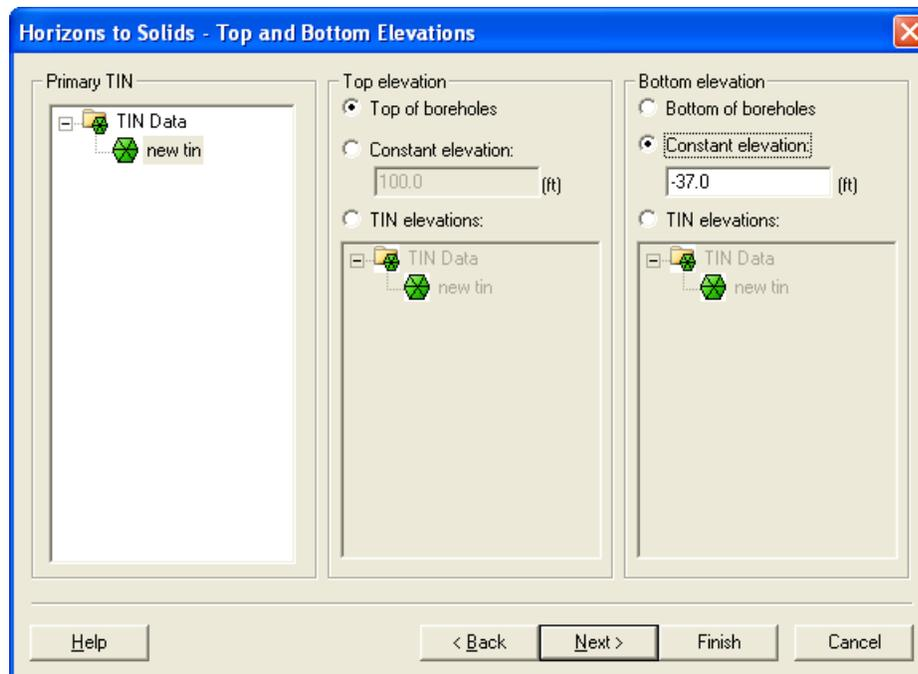

Figure 1. Horizons to Solids Wizard, step 2.
4. In the second step, set the dialog options as shown in Figure 1 below and click *Finish*.